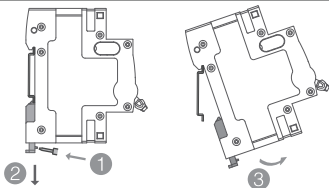

Figure 4 Dismantling
5.3 Dismantle as shown in Figure 4